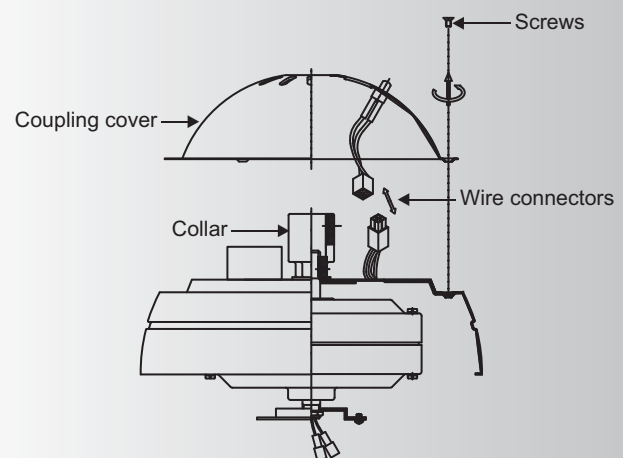

Fig. 7
Step 5. Remove the coupling cover from the motor housing by removing the two screws from the rim of coupling cover, and then disconnect the wire connectors from the coupling cover and motor housing. (Fig. 7)